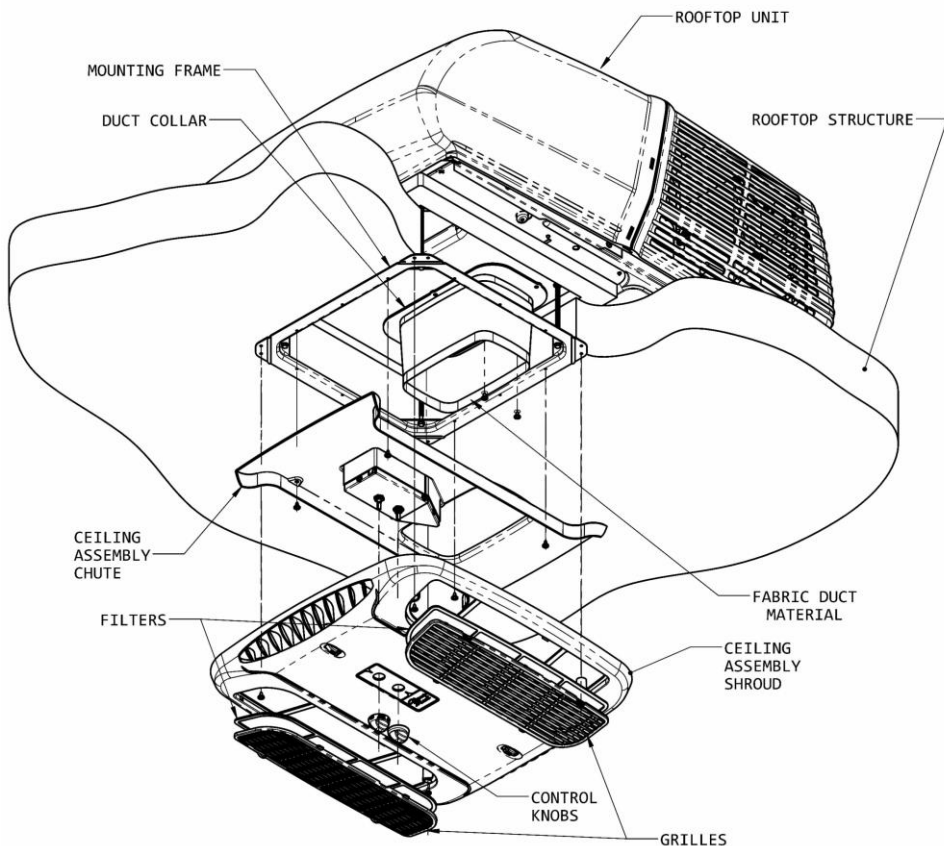

Figure 9
- B. Fasten the duct collar to the air conditioner basepan with 3 provided screws (See Figure 9).
- H. Raise the ceiling assembly chute to the unit mounting frame and secure the chute with four provided screws (See Figure 9).
- K. Raise the ceiling shroud, ensuring it meshes with the chute, and secure to the mounting frame with the four provided screws. (See Figure 9).